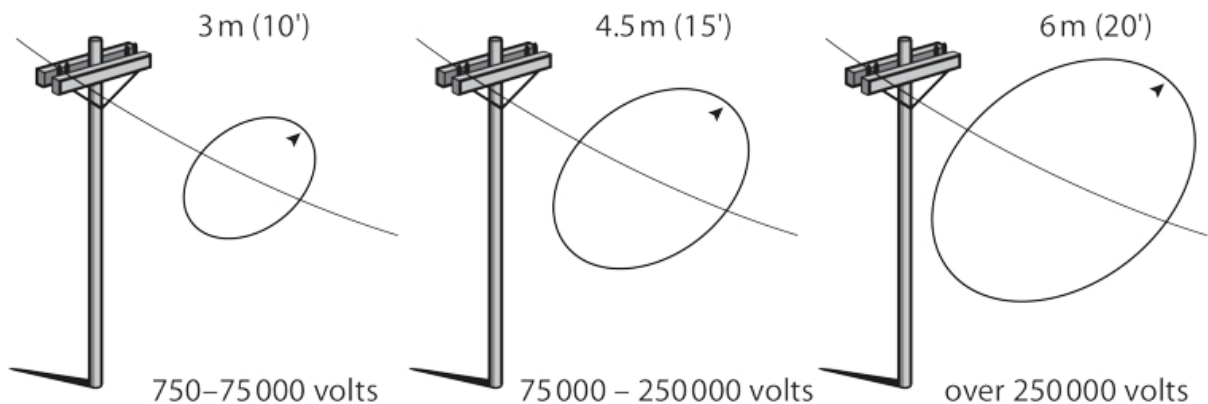

Figure 11 Limits of approach
- Figure 11 Limits of approach by ITA is licensed under a CC BY-NC-SA licence (<https://creativecommons.org/licenses/by-nc-sa/4.0/>).